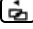

Fig. 25 Right-hand side of the multifunction steering wheel: controls for using the menus and information displays in the instrument cluster.
If any priority 1 ⇒ *Instrument cluster* warning reports are being displayed, you will be unable to open any menus. Some warnings can be confirmed and switched off with the **OK** button on the multifunction steering wheel ⇒ *Fig. 25*.
- If a message or the vehicle pictogram is displayed, press the **OK** button ⇒ *Fig. 25*, several times if required.
- Press the  or  button to display a menu or browse through a menu ⇒ *Fig. 25*.
- To open the menu or information display, press **OK** ⇒ *Fig. 25* or wait until the menu or information display opens automatically after a few seconds.
- In the displayed menu, press the arrow keys  or  ⇒ *Fig. 25* until the desired menu option is marked. A frame appears around the selected option.
- Press button **OK** ⇒ *Fig. 25* to make the necessary change. A tick indicates that the particular system or function is active.
Press the  or  button ⇒ *Fig. 25*.